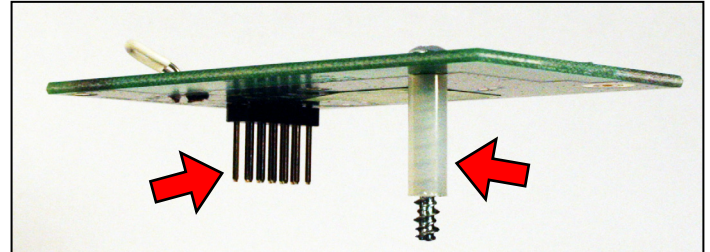

Fig. 4: "Header Plug" (left arrow) and "Standoff" (right arrow)*
4. Slide the **Standoff** (right arrow in Fig. 4) onto the **Screw**. Take note of the **Header Plug** (left arrow in Fig. 4).